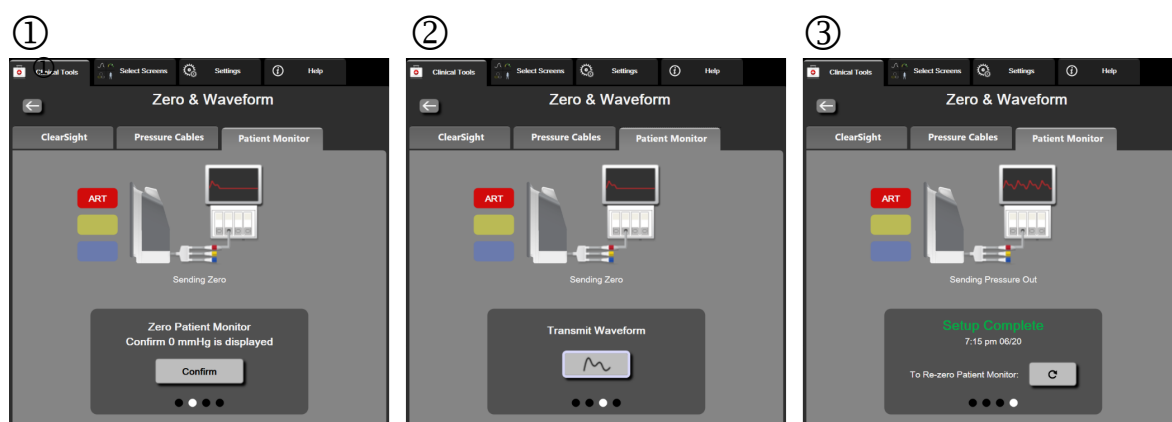

Figure 11-8 Transmit arterial pressure waveform to patient monitor
- 5 Zero patient monitor and confirm 0 mmHg is displayed. Touch **Confirm**. See ① in figure 11-8.
- 6 Touch the **Transmit Waveform** icon  to begin pressure signal output to the patient monitor. See ② in figure 11-8.
- 7 A “**Setup Complete**” message will be displayed when the live waveform is being transmitted to the connected patient monitor. See ③ in figure 11-8.